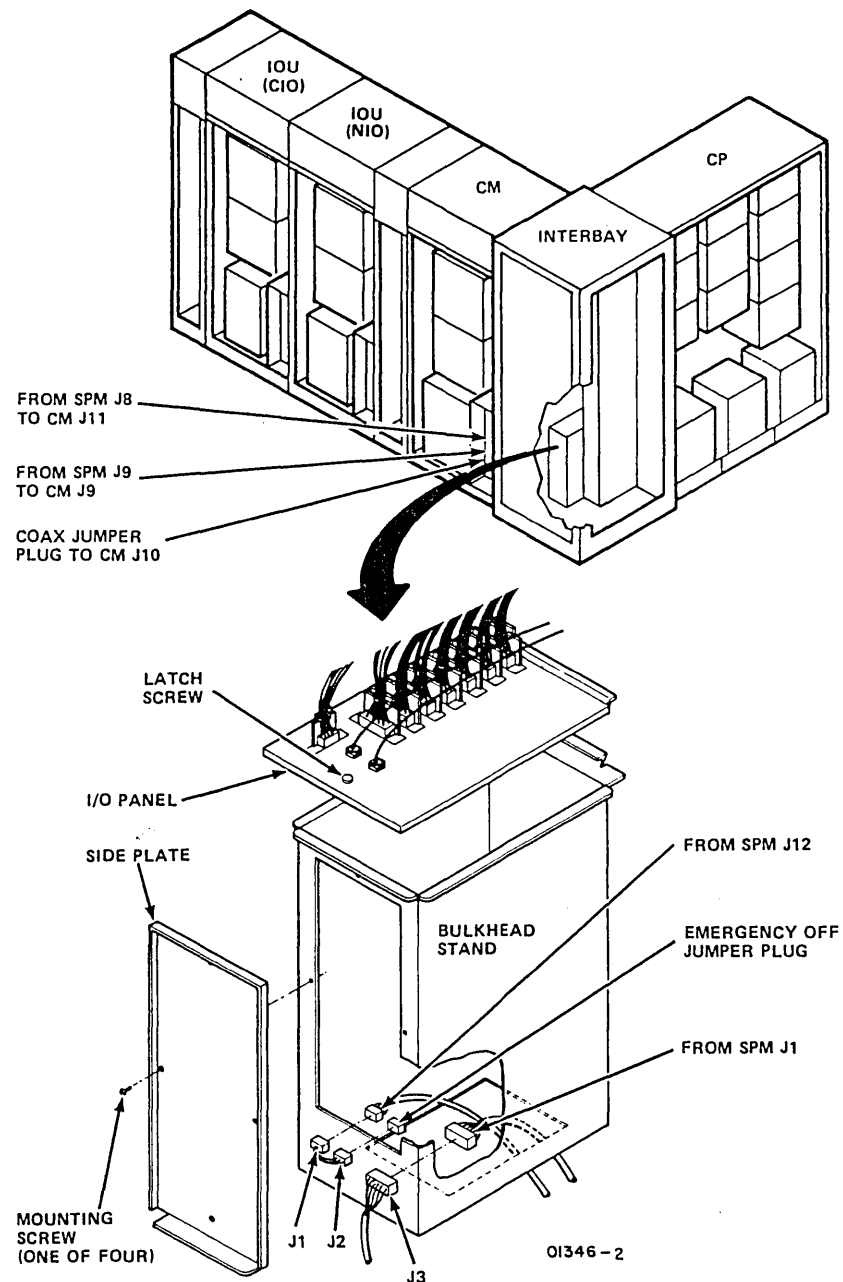

Figure 4-13. SPM Cable Connections to Interbay and CM
- ___ 1. Remove side plate from bulkhead stand inside interbay (figure 4-13).